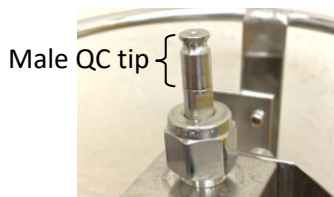

Figure 1. Male QC fitting check
- 2) Check the male QC on the canister and verify the stem tip is tight. If loose, finger tighten by screwing tip clockwise (Fig 1.)